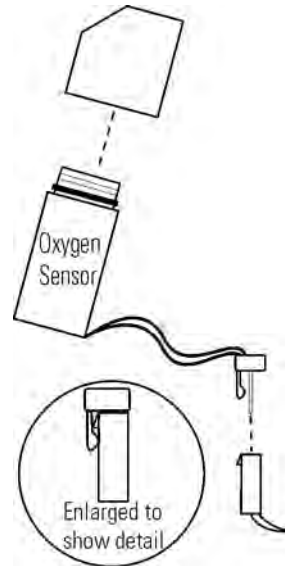

Figure 5-11. Detail
4. Lift up slightly on the tab securing the sensor wire terminal connection. Be careful not to break the tab off. See enlarged detail of Figure 5-11.